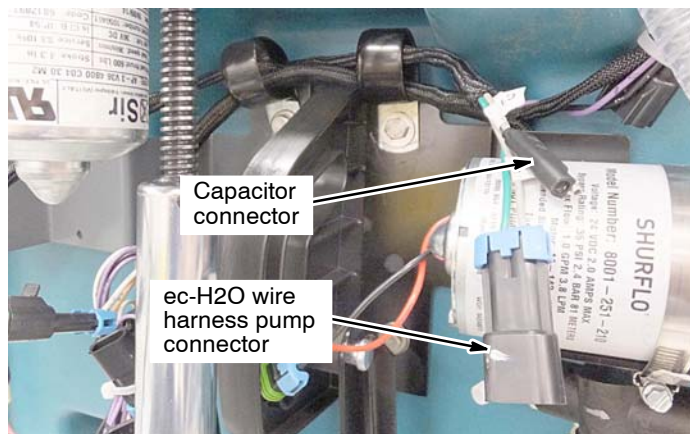

Fig. 19
5. Route the ec-H2O wire harness pump connector and capacitor connector through the two large clamps as shown (Figure 19).